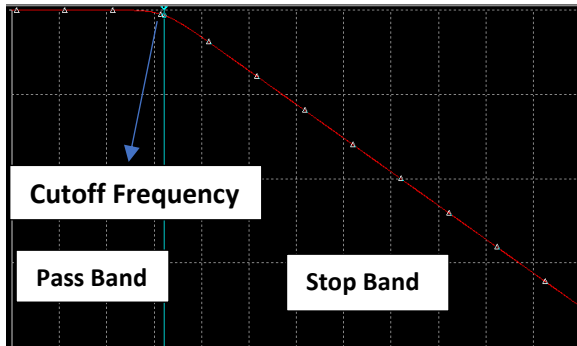
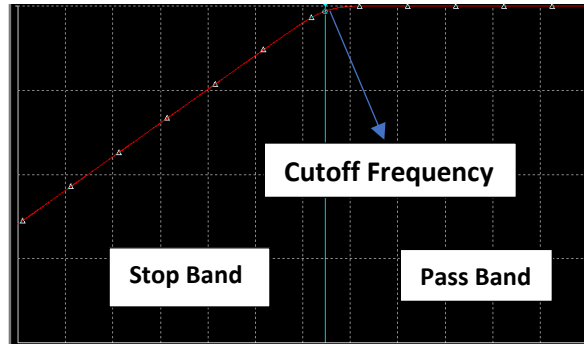

Figure. 5. LPF Bode plot
Figure. 6. HPF Bode Plot
- 3) Define the cutoff frequency from the frequency response graphs as depicted in fig.5 and fig.6.
2. From the fig. 5 above find the frequency that has loss of -3dB.
5. From the fig. 6 above find the frequency that has loss of -3dB.